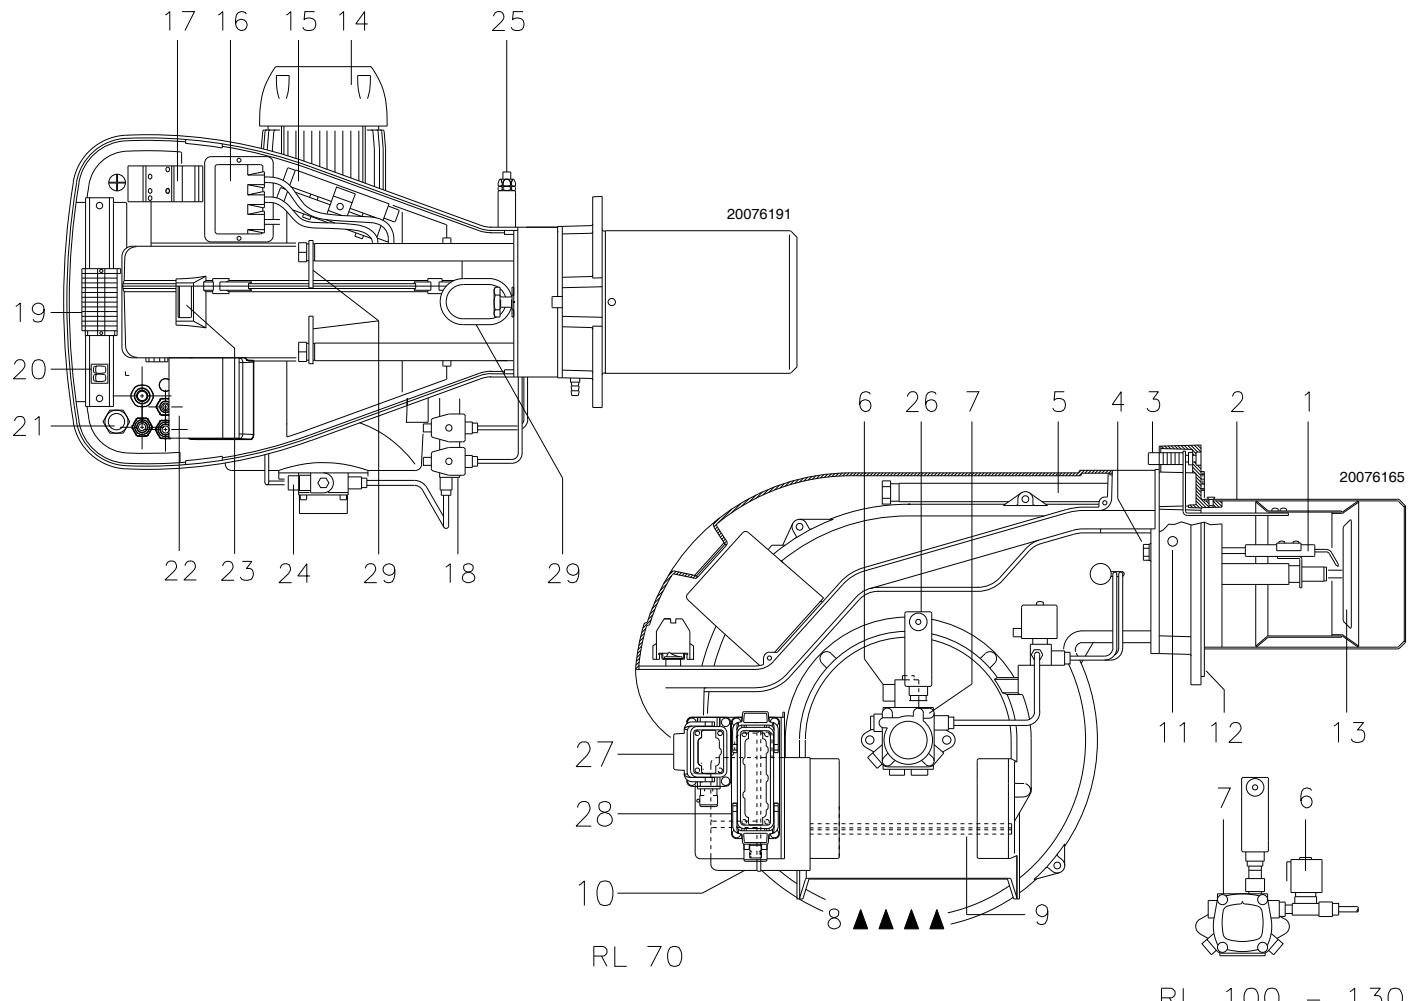

Fig. 4
(1) Blast tube: short-long
- 2 - Extensions 15)(Fig. 4 at page 10) for slide bars 5
if the control box 22)(Fig. 4) pushbutton (red led) lights up, it indicates that the burner is in lock-out. To reset, hold the pushbutton down for between 1 and 3 seconds.
release by pressing the pushbutton on thermal cut-out 17)(Fig. 4).
- lift the burner completely, hooking it to the 3 lifting rings 29)(Fig. 4 at page 10).